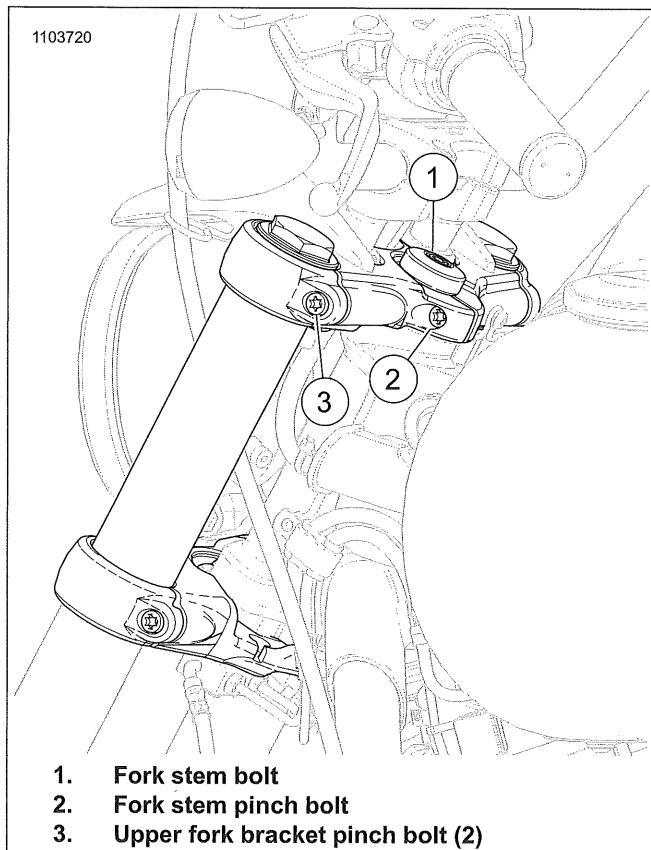

Figure 2-31. Pull Force Adjustment Points (Typical)
3. See Figure 2-31. Loosen fork stem pinch bolt (2).
4. Loosen upper fork bracket pinch bolts (3).
5. Adjust fork stem bolt (1).
6. Tighten fork stem pinch bolt (2).